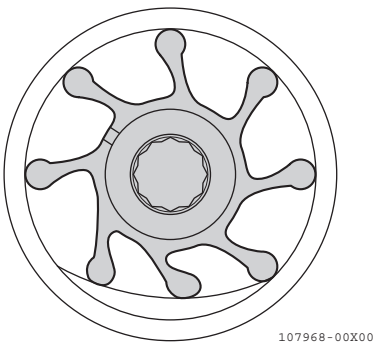

Figure 16
4. When installing the impeller, position blades of the impeller as shown in the illustration. (**Figure 16**)